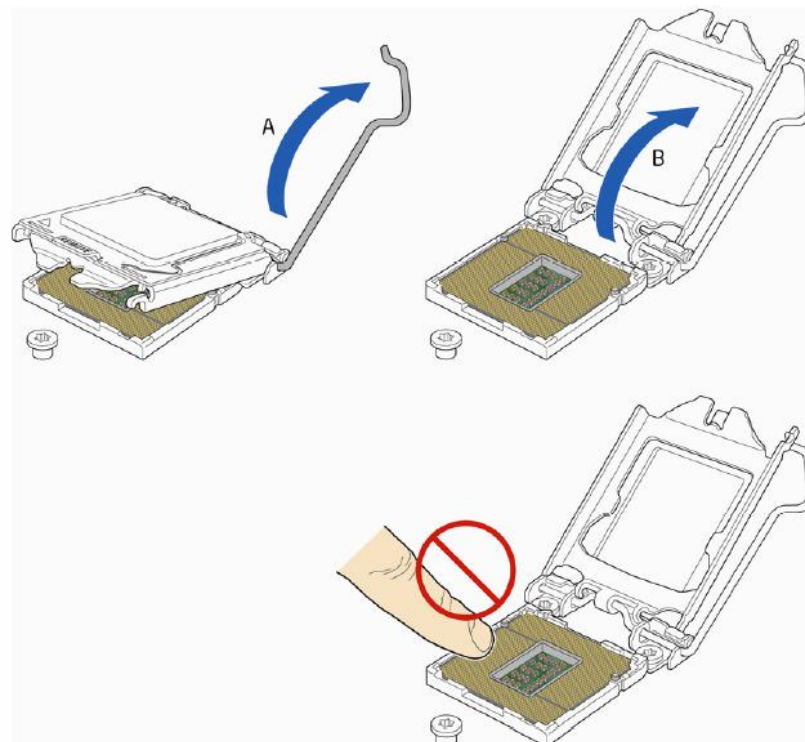

Figure 22: Lift the load plate
2. Rotate the socket lever to lift the load plate away from the socket (Figure 22, A). Make sure that the load plate is in the fully open position (Figure 22, B) while being careful not to damage adjacent components. Do not touch the socket contacts.